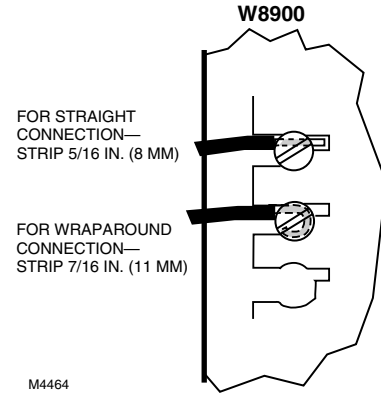
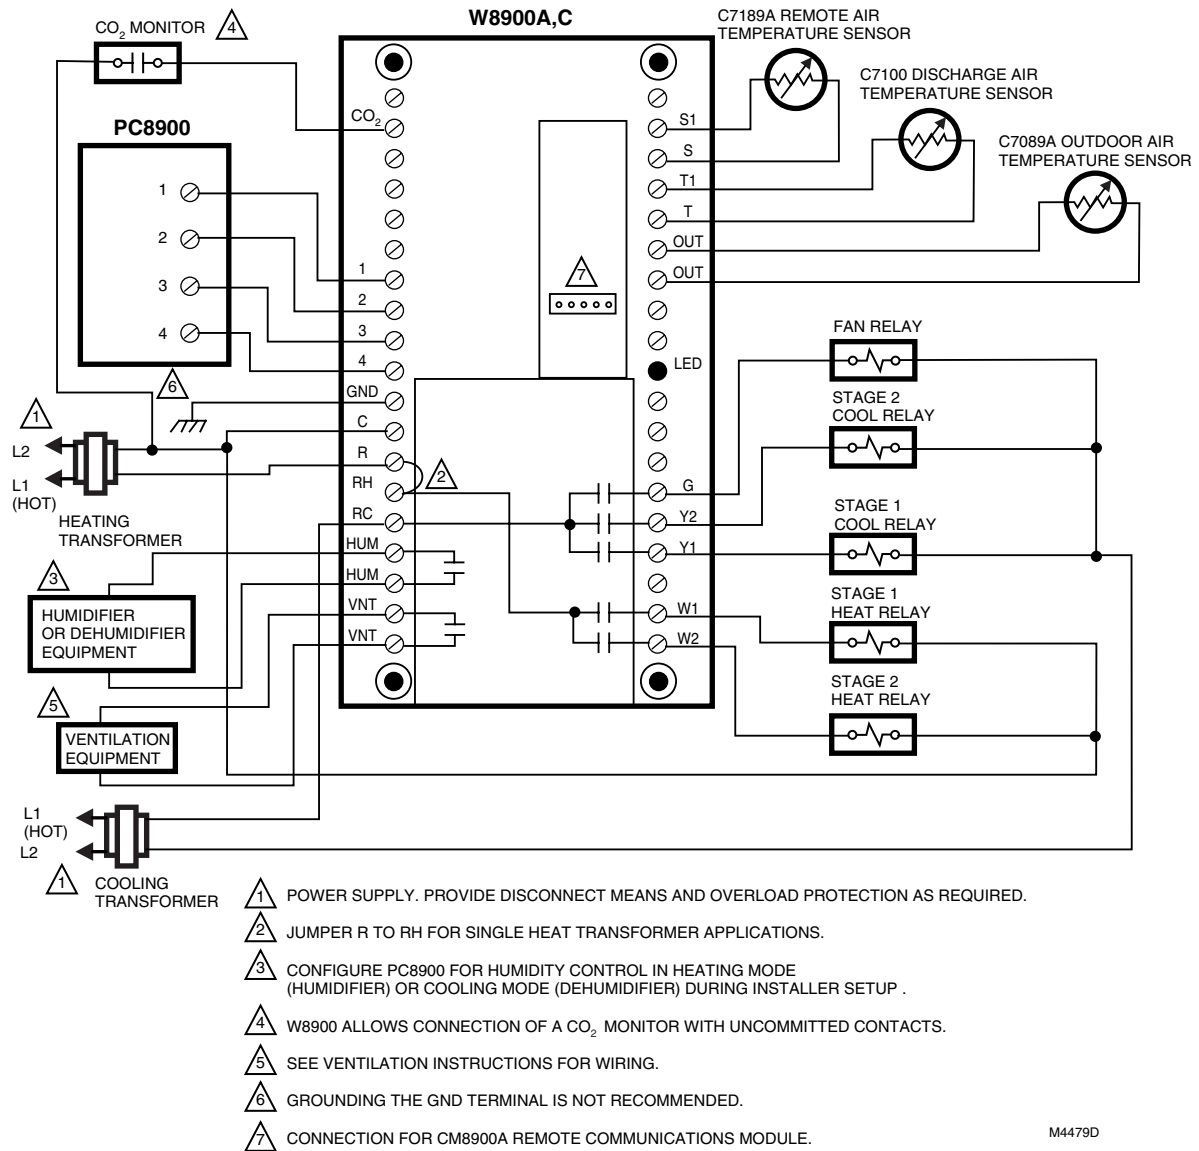

Fig. 10. Proper wiring technique for W8900A-C and PC8900A.
Fig. 11. Hookup diagram for heating/cooling system in conventional system with multiple transformers.
4. Use Table 2 or 3 to identify the W8900A-C terminal labels. Connect the same loads that were connected to the old thermostat to the W8900A-C Remote Module with a new bundle of 18-gauge color-coded thermostat wire; see Fig. 10. See Fig. 11 through 20 for wiring diagrams for specific equipment applications.
2. Refer to Fig. 11 through 20 for wiring diagrams for specific equipment applications.
3. Connect all loads to the appropriate W8900A-C wiring terminal using 18-gauge, color-coded thermostat wire; see Fig. 10.